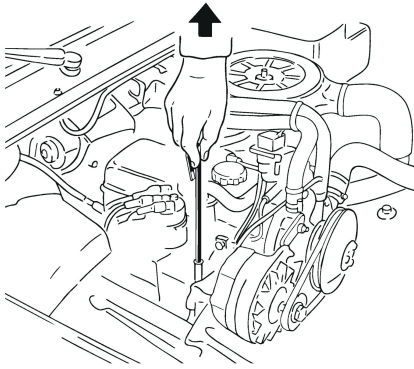

Fig. 2
2. FIG.2 remove engine oil case